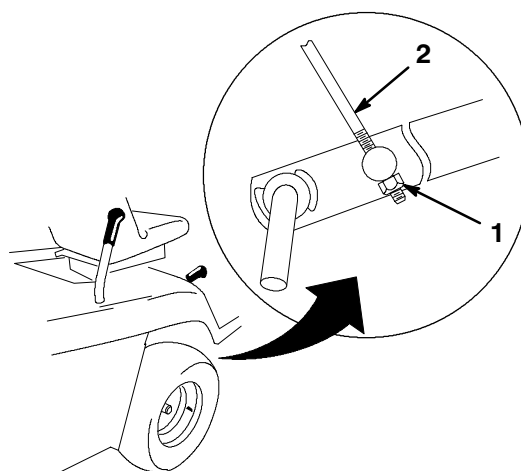

Figure 43
4. Adjust the M8 locknut at the end of the height adjustment rod assembly until the rod is slightly taut (Fig. 43).